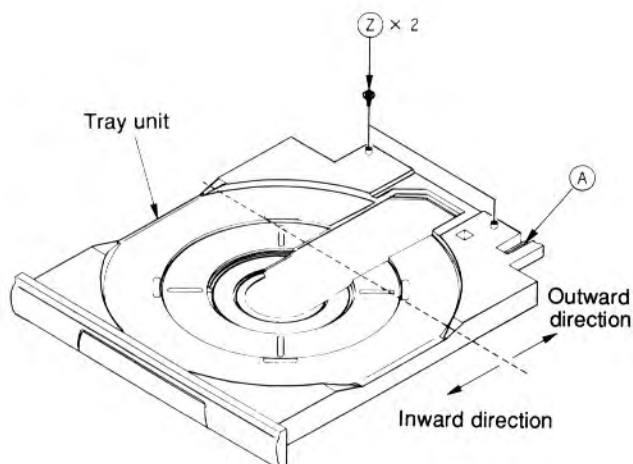
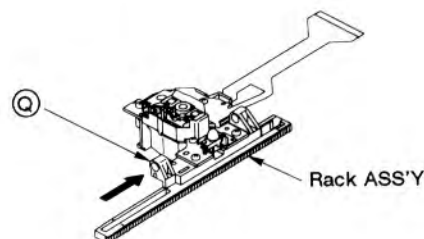

Fig. 2-1
Fig. 2-3
1. Remove the two fixing screws \textcircled{Z} (Fig. 2-1).
3. Pull out the tray unit while pressing the hook \textcircled{A} (Fig. 2-1), located on the rear right side of the tray unit, to the left.
2. Make sure that the position of the lens in the pickup assembly is such that the lens stops outside the position indicated by the dotted line in Fig. 2-1.
When the lens stops inside the dotted line, slowly press the \textcircled{Q} portion of the rack assembly (Fig. 2-3) to move the lens in the pickup assembly until the lens is outside the position indicated by the dotted line in Fig. 2-1.
3. Slowly press the (Q) portion of the rack assembly (Fig. 2-3) to move the lens in the pickup assembly until the lens is outside the position indicated by the dotted line in Fig. 2-1.